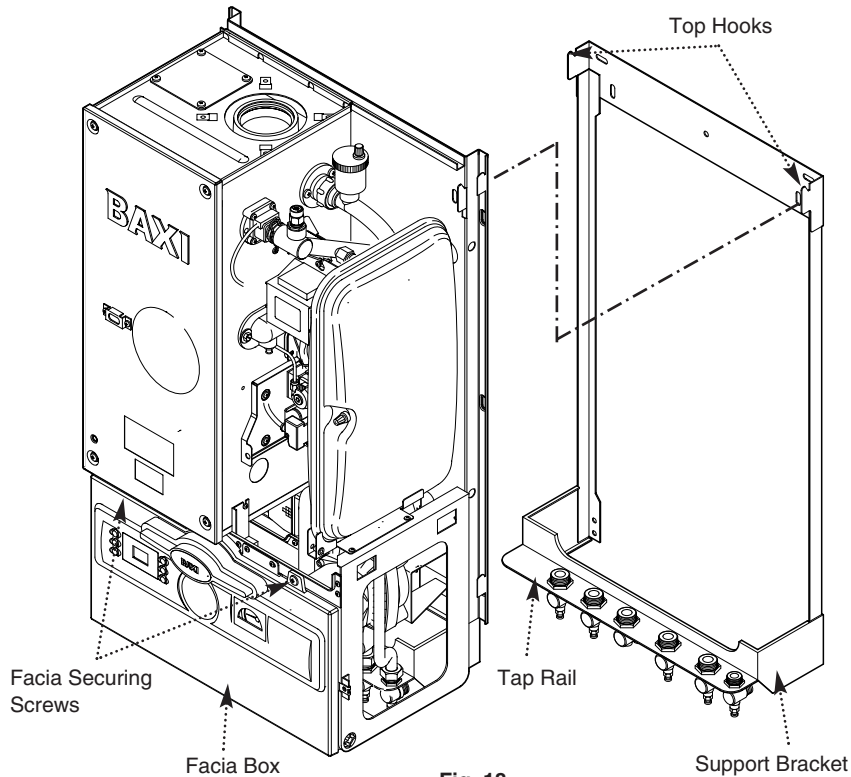

Fig. 18
8.4 Fitting The Boiler (Fig. 18)